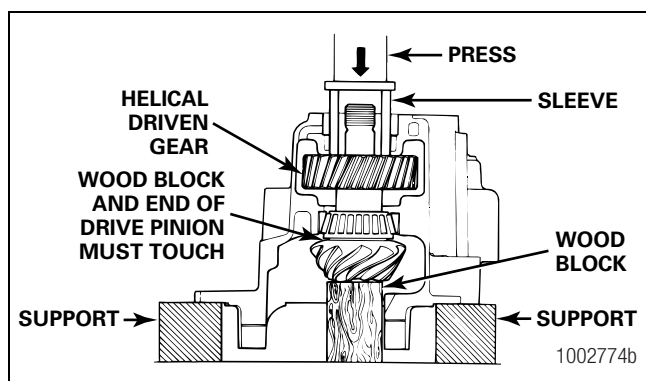

Figure 5.13
7. Place the carrier into a press so that the threaded end of the pinion is toward the TOP of the press. Place supports under the flange of the carrier so that the carrier is level. Place a wood block under the head of the drive pinion so the inner pinion bearing cone touches the inner bearing cup. Figure 5.13.
8. Use a press and a sleeve to completely install the helical driven gear onto the drive pinion. Use a sleeve on the hub of the gear that fits inside the pinion bore in the carrier. Press the gear onto the drive pinion until the gear touches the spacer. Figure 5.13.